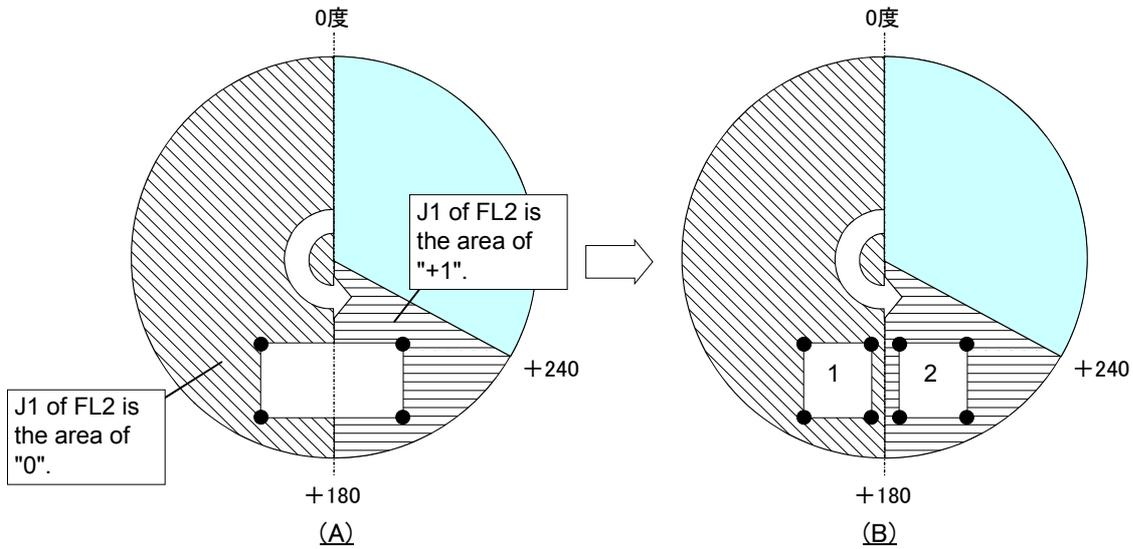
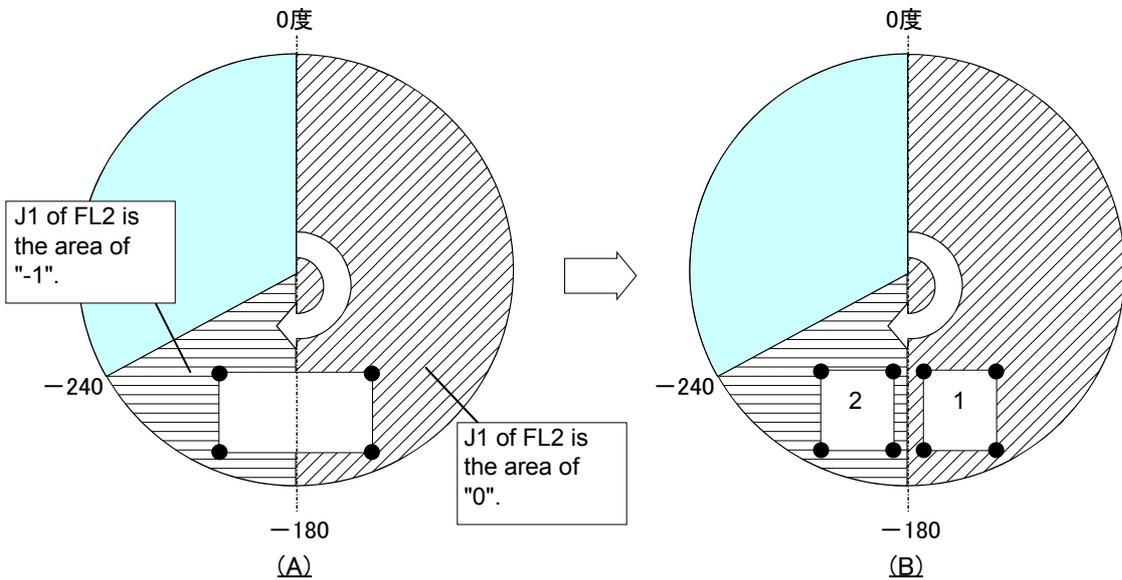

Fig.4-1:Limitation of the palette definition(1)
Fig.4-2:Limitation of the palette definition(2)
In the robot types (RV-2SQ etc.) in which the J1 axis or the J4 axis can exceed the +/-180 degrees, the palette that the joint angle of the J1 axis or the J4 axis straddles the +/-180 degrees cannot be specified. The alarm will occur, if such position were defined. The example is shown in Fig. 4-1(A) and Fig. 4-2(A). If you use the pallet in such a position, please divide and define the palette. Refer to Fig. 4-1(B) and Fig. 4-2(B).